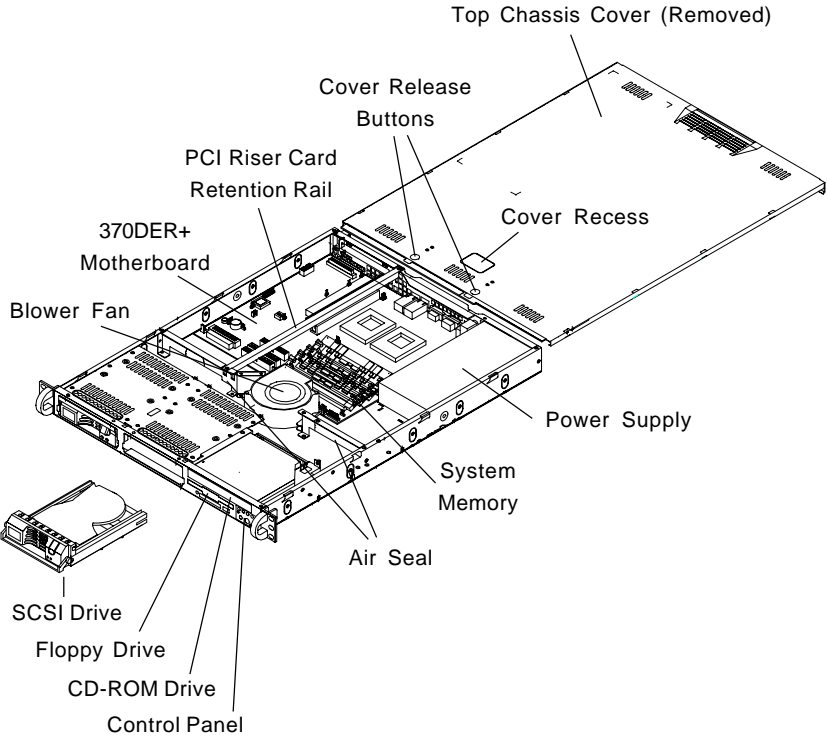

Figure 2-5. Accessing the Inside of the SuperServer 6010H (with one SCSI Drive removed)
1. Accessing the inside of the 6010H (see Figure 2-5):